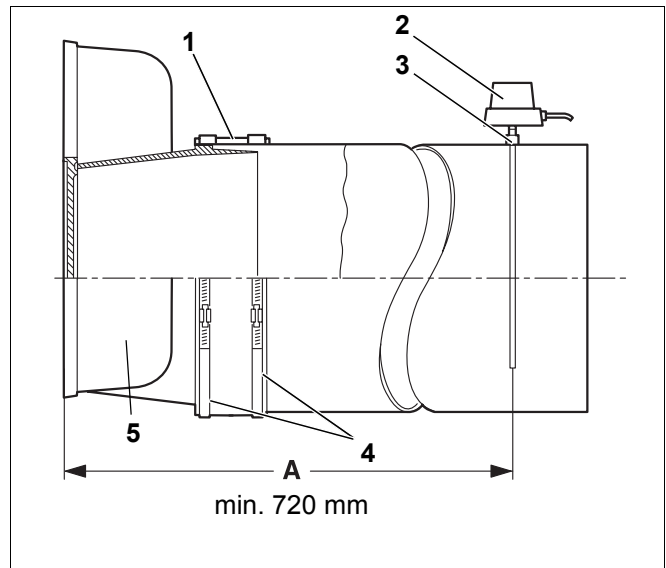

Fig. 29 Flue gas pipe installation
We recommend you use a flue gas pipe sealing collar (Fig. 29, Item 1).
- Place the jubilee clips (Fig. 29, **Item 4**) over the flue gas pipe sealing collar. One of the jubilee clips must clamp on the coupling of the flue gas collector and the other onto the flue gas pipe.
- Weld the coupling (Fig. 29, **Item 3**) at a distance of $2 \times$ flue gas pipe diameter (A) – min. 720 mm – from the flue gas collector into the flue gas pipe.
- Install the flue gas temperature sensor (Fig. 29, **Item 2**) in accordance with separate installation instructions.